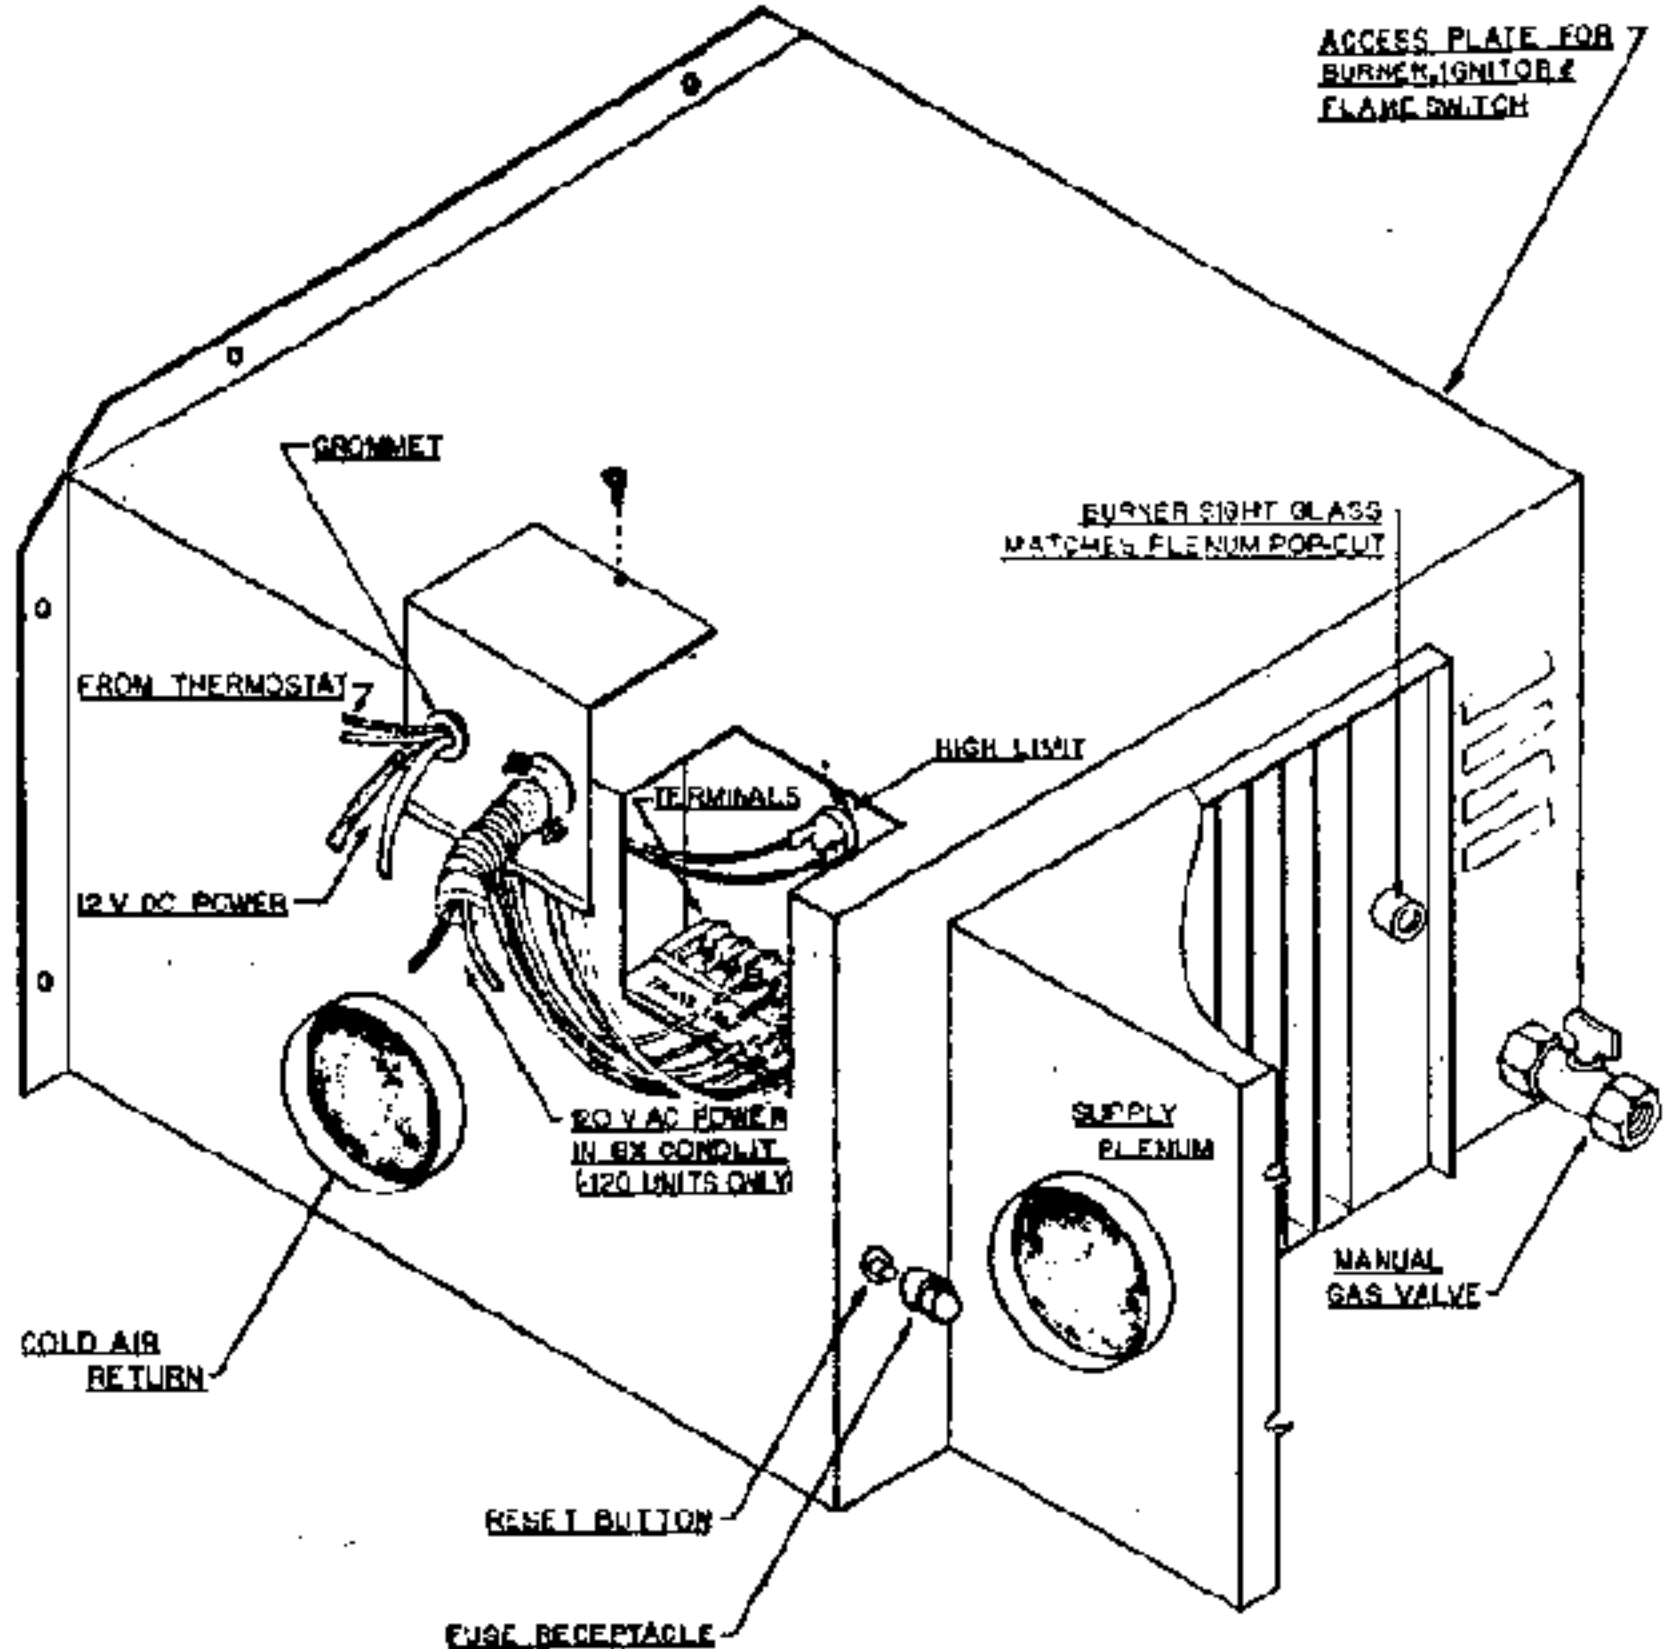

Figure 1. Sol-Aire Furnace viewed from inside vehicle.
4. Press manual reset button on furnace (see Figure 1).